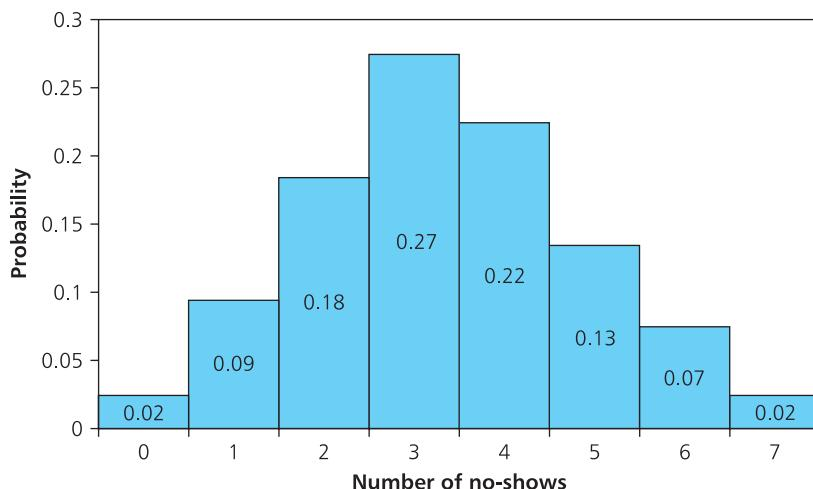

Figure 15.1 A probability distribution for worked example 15.1
Dividing each of the frequencies by the total number of observations (45) gives the relative frequency – or probability. For instance, there were seven no-shows on one night, so the probability of seven no-shows is $7/45 = 0.02$. Repeating this gives figures for the probability distribution, which is drawn as a bar chart in Figure 15.1.
The probability distribution in this example is empirical, which means that it came from actual observations. You can use this approach for any problem where you have enough observations. The result is a useful format for summarising data – but the weakness is that the resulting distribution is specific to a particular problem, and you cannot use the same distribution for other problems. The probability distribution in Figure 15.1 describes the